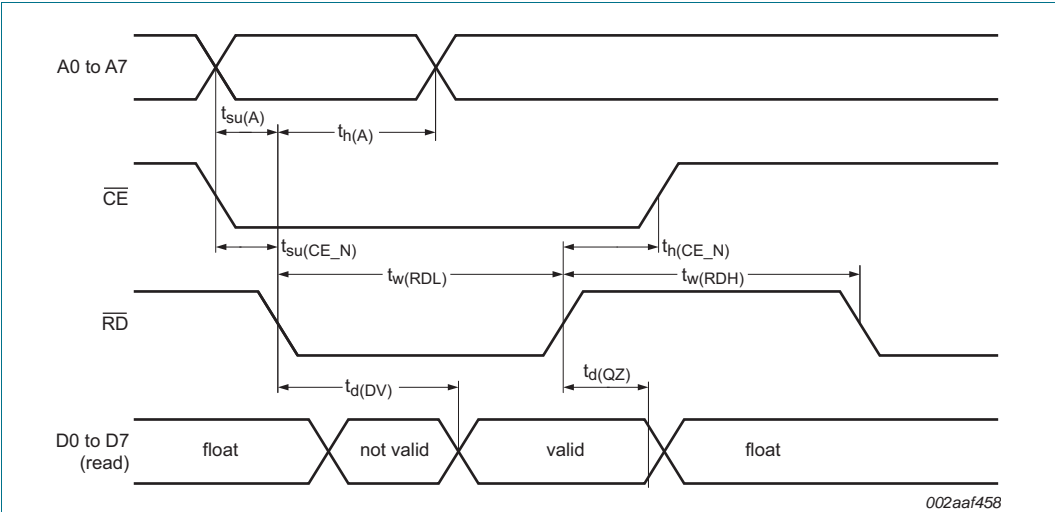

Fig 27. Bus timing (read cycle)
Bus timing (see <a href="#">Figure 27</a> and <a href="#">Figure 29</a> )
- [2] All voltage measurements are referenced to ground ( $V_{SS}$ ). For testing, all inputs swing between 0 V and 3.0 V with a transition time of 5 ns maximum. All time measurements are referenced at input voltages of 1.5 V and output voltages shown in Figure 27 and Figure 29.